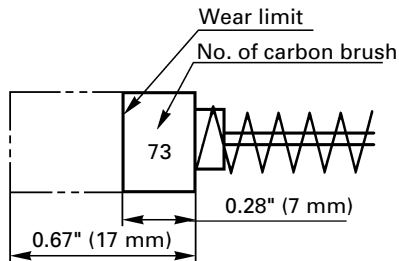

Fig. 19
4. Inspecting the carbon brushes: (Fig. 19)
NOTE: Use HITACHI carbon brush No.73 indicated in Fig. 19.